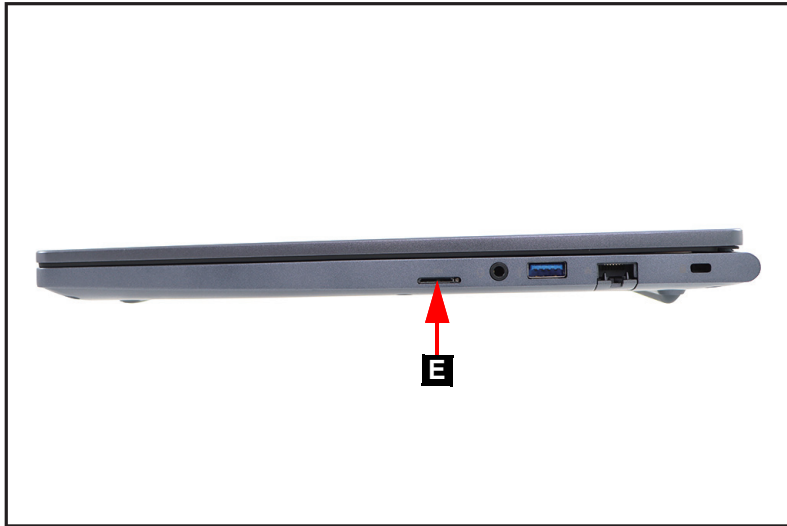

Figure 1-3. SIM Card Removal
5. Insert the eject tool into the hole on the SIM card tray (E). Then push to eject the card tray and remove the SIM card (LTE SKU only) (Figure 1-3).